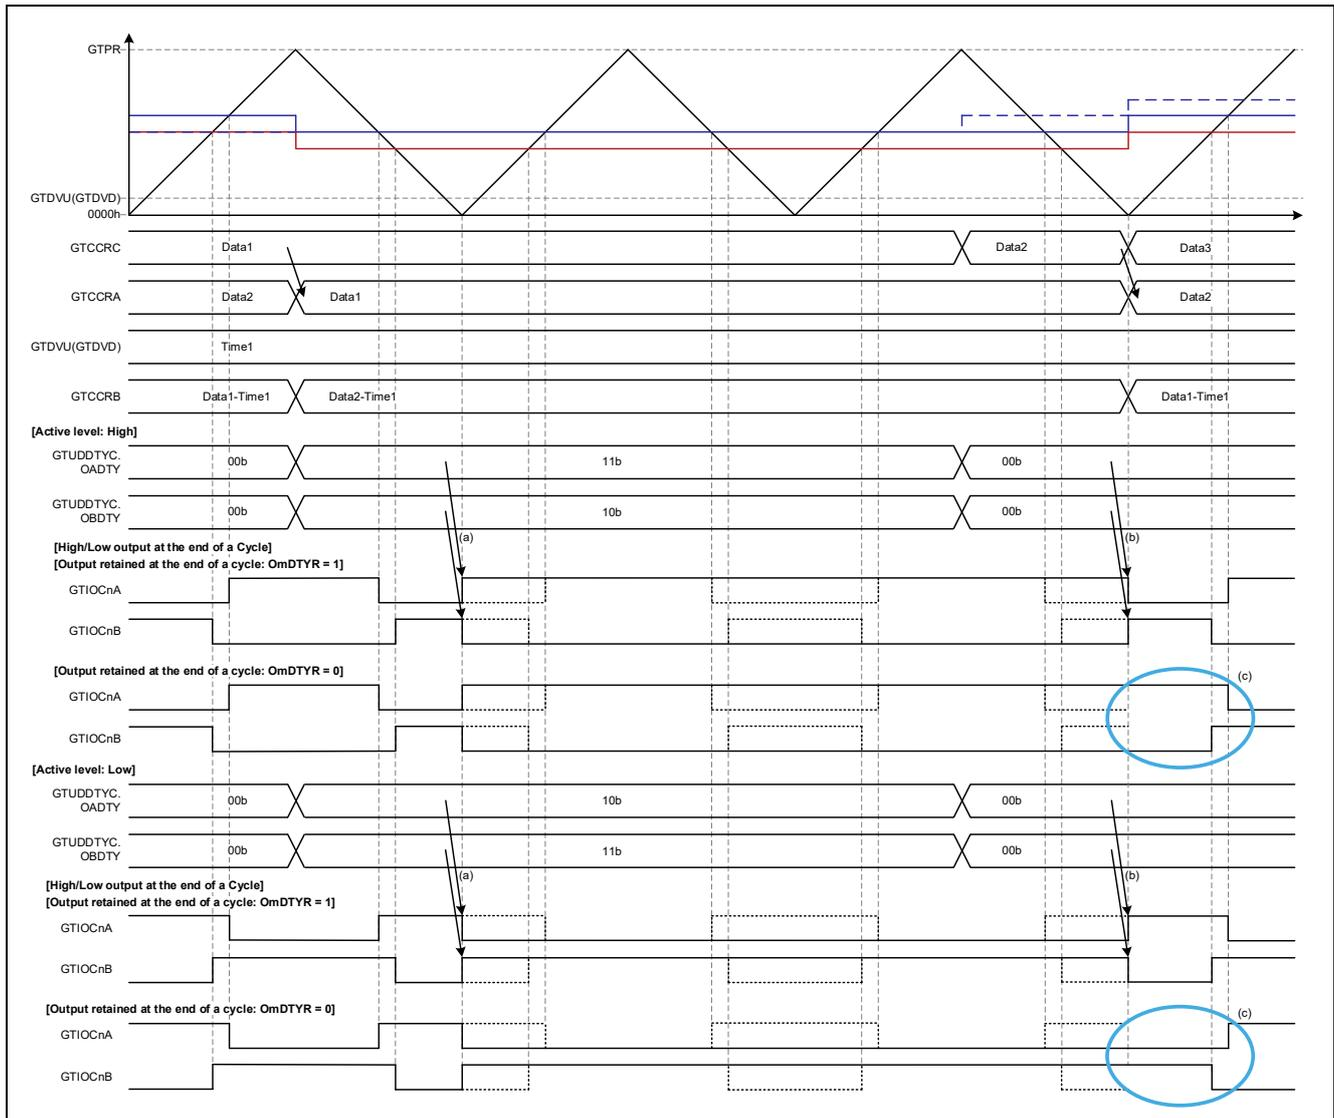
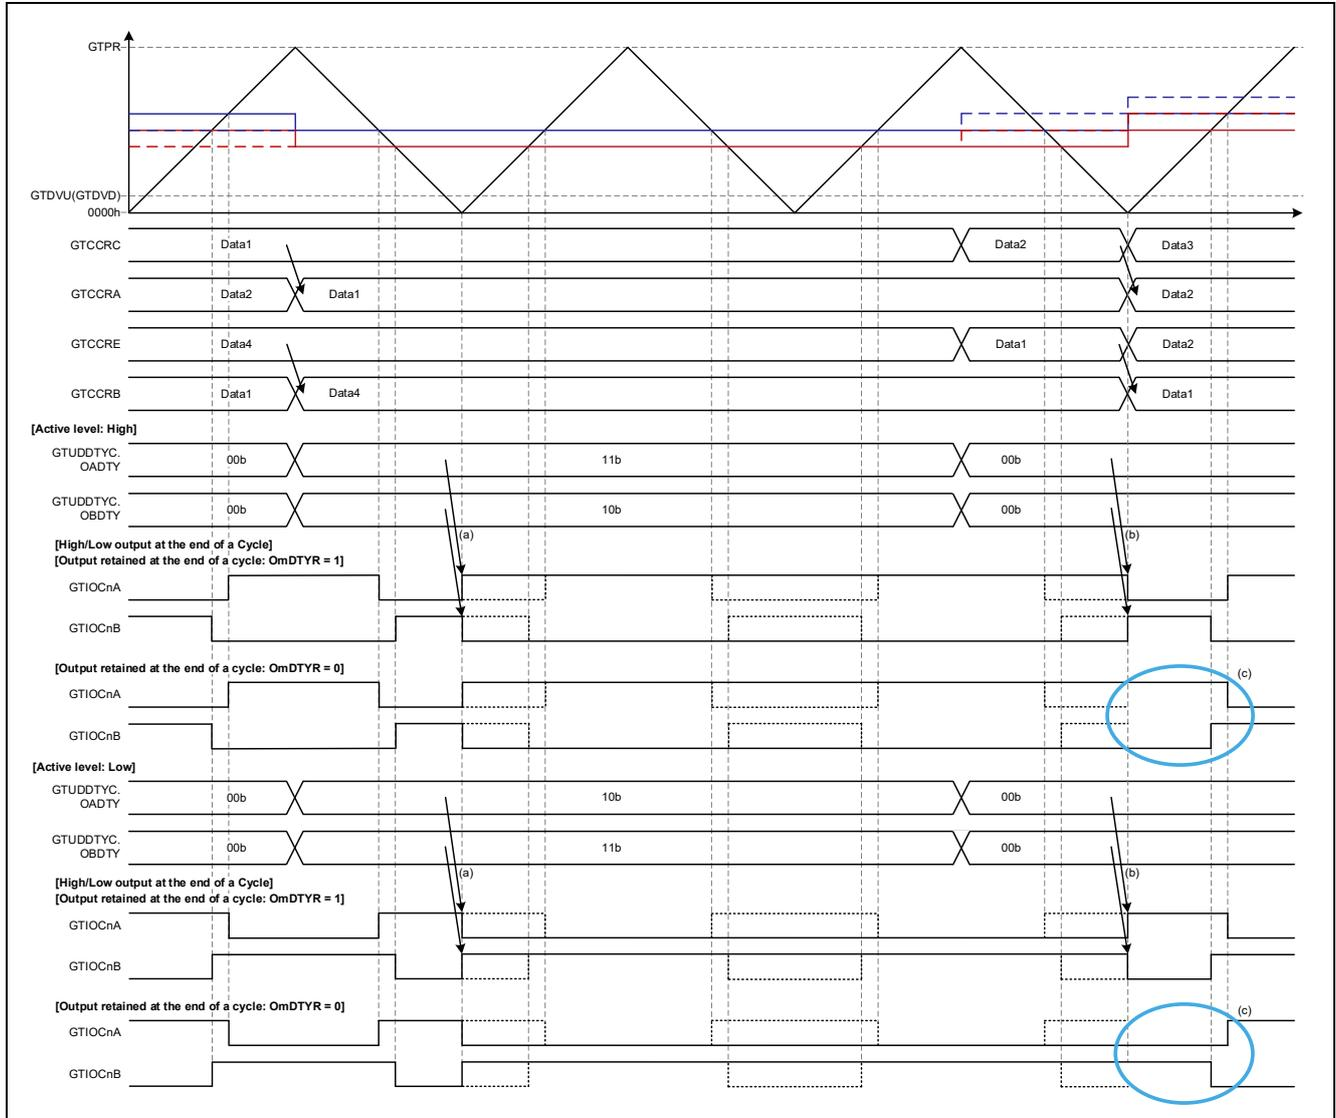

Figure 1.17 Triangle-Wave PWM Mode 2 Operation Example
Figure 1.18 Triangle-Wave PWM Mode 2 Operation Example
| Triangle-Wave PWM mode 2 | Trough | Figure 1.17 | Figure 1.17 | Figure 1.18 | Figure 1.18 |
- [Operation example 3] Figure 1.17, Triangle-Wave PWM Mode 2, Output Start: Trough, Automatic Dead Time Setting Function Enabled
- [Operation example 4] Figure 1.18, Triangle-Wave PWM Mode 2, Output Start: Trough, Automatic Dead Time Setting Function Disabled
Figure 1.17 shows an operation example with the automatic dead time setting function enabled in triangle-wave PWM mode 2.
Figure 1.18 shows an operation example with the automatic dead time setting function disabled in triangle-wave PWM mode 2. Except for the operation of the GTCCRB and GTCCRE registers, the operation is the same as that shown in Figure 1.17.